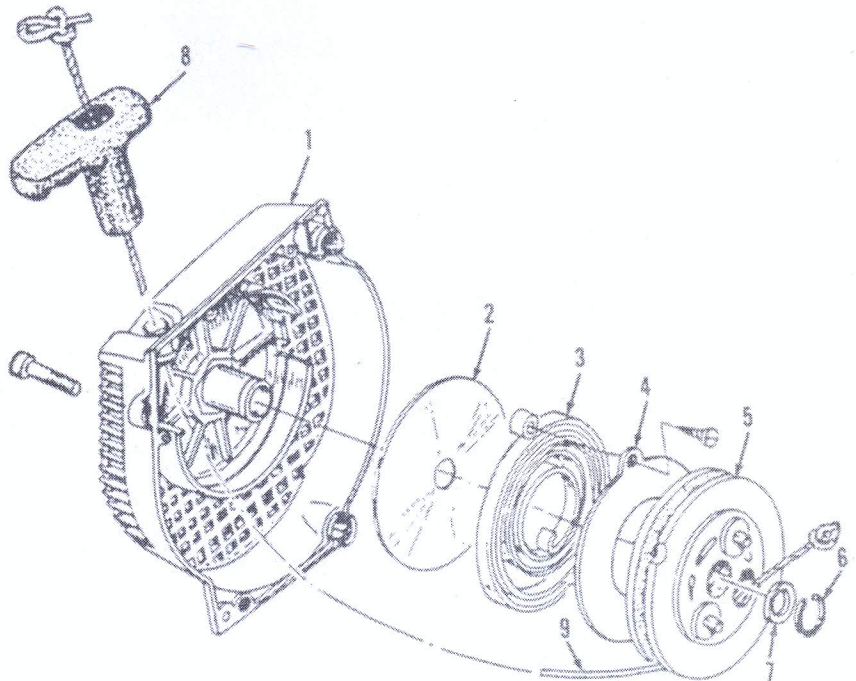

Fig. D116—Exploded view of the rewind starter typical of models 115 and 120.
REWIND STARTER. Refer to Fig. D116 for exploded view of the rewind starter. The starter assembly can be unbolted and removed from the engine. If the recoil spring is under pressure, remove the assembly from the engine, pull the rope out about 20 cm (8 in.), hold the pulley (5), unwind the rope from the pulley, then allow the pulley to slowly unwind. Remove clip (6) and washer (7), then slide pulley (5) from the shaft. Make sure spring is completely unwound before removing the pulley.